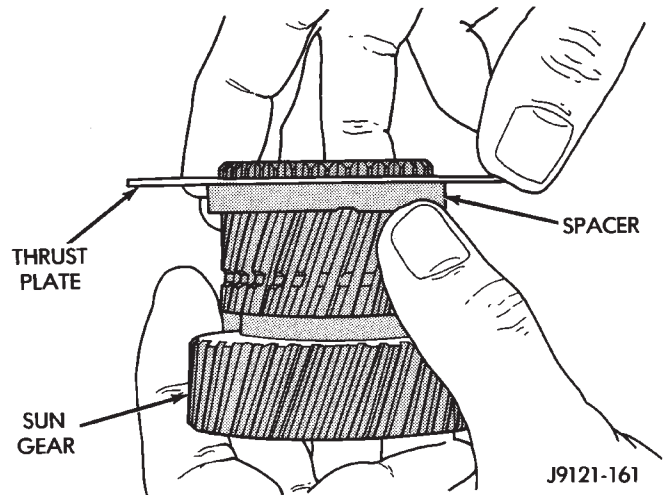

Fig. 89 Installing Driving Shell Front Thrust Plate On Sun Gear
(8) Install thrust plate on sun gear (Fig. 89). Note that driving shell thrust plates are interchangeable. Use either plate on sun gear and at front/rear of shell.